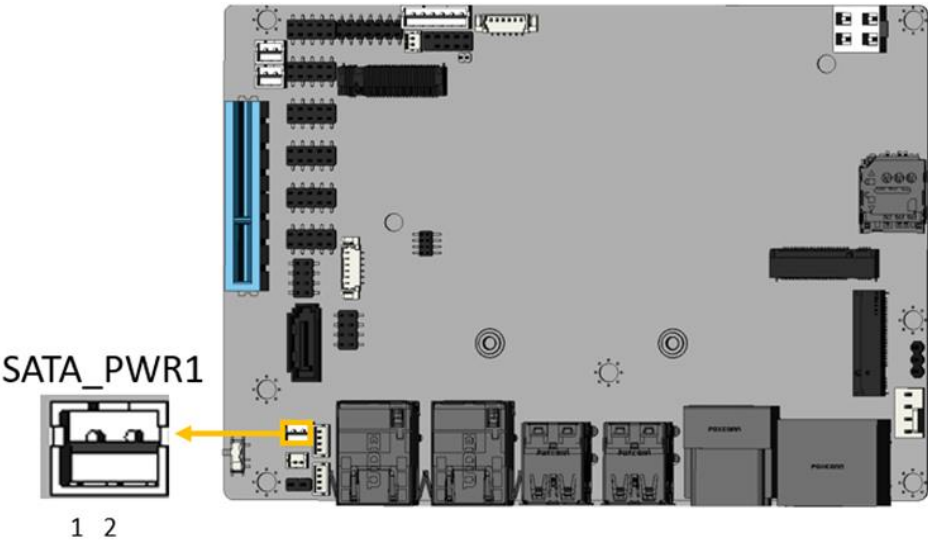

Figure 3-18: SATA Power Connector Location
- CN Location: See Figure 3-18